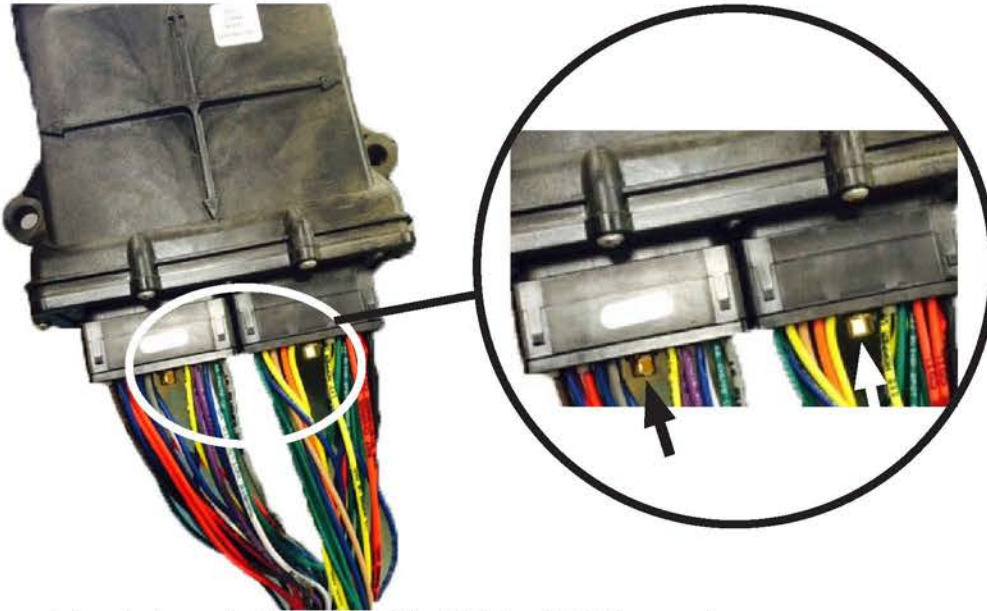

Figure 1: Locate the controller node and the MC21 and MC22 connectors. Disconnect the connectors by the bolt that secures the connectors to the node.
2. Locate connectors MC21 and MC22 on the McNeilus Command Center node (Figure 1).
3. Disconnect both of the connectors from the controller node by removing the bolt that holds the connector to the node with a 1/4" socket wrench (Figure 1).